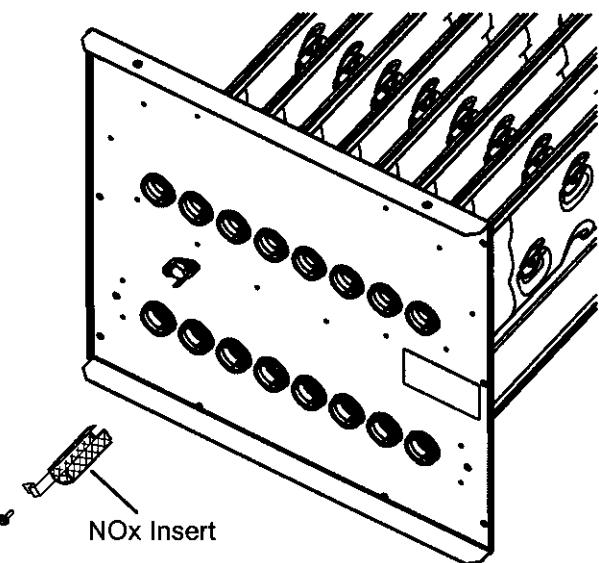

Figure 30
8. **NOX units only** - Remove screw securing NOX insert. Remove NOX insert. See Figure 30.